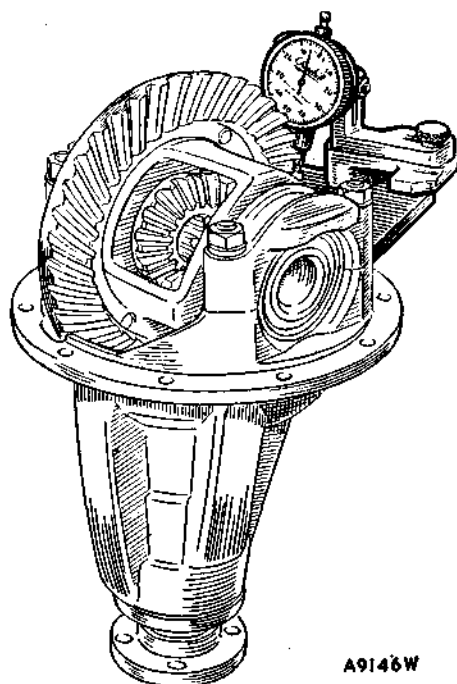

Fig. H.14
3. Fit the differential to the gear carrier. Replace the bearing caps and tighten the nuts to a torque wrench reading of 65 lb. ft. (8.99 kg. m.). Bolt the Service tool surface plate to the gear carrier flange and mount the clock gauge on the magnet bracket in such a way that an accurate backlash figure may be obtained. (See Fig. H.14.) The correct figure for the backlash to be used with any particular crown wheel and pinion is etched on the rear face of the crown wheel concerned and must be adhered to strictly.